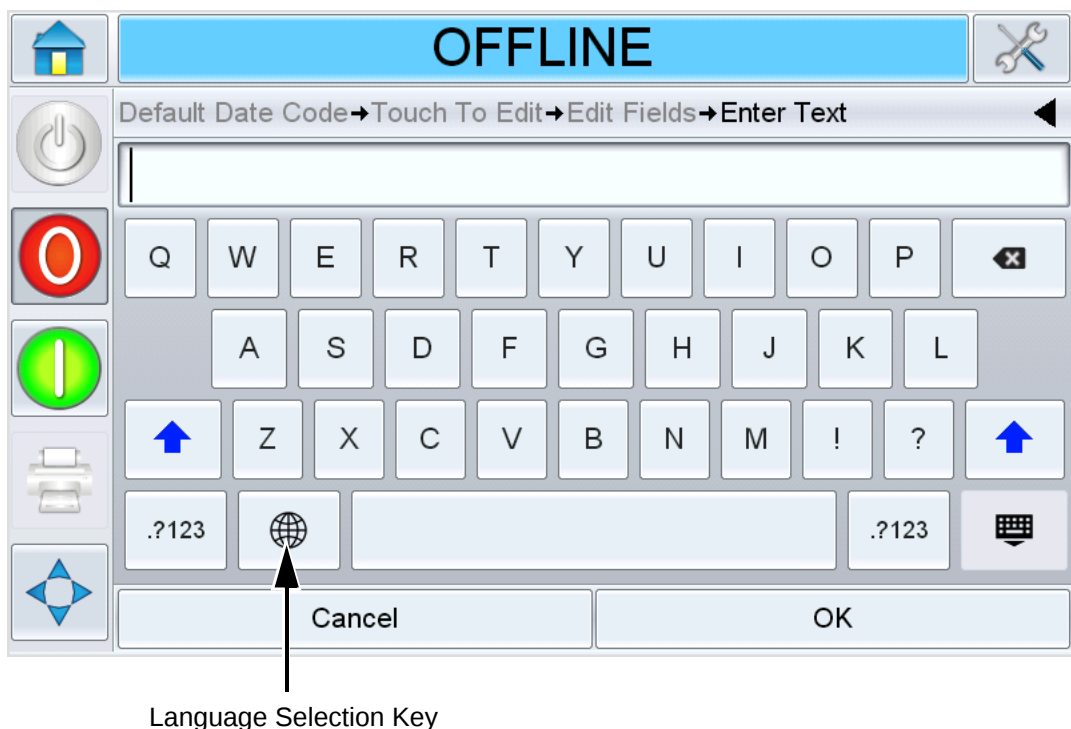

Figure 6-5: Default Keypad
- b. Touch the 'Language Selection Key', to access the available language selections (see Figure 6-5).